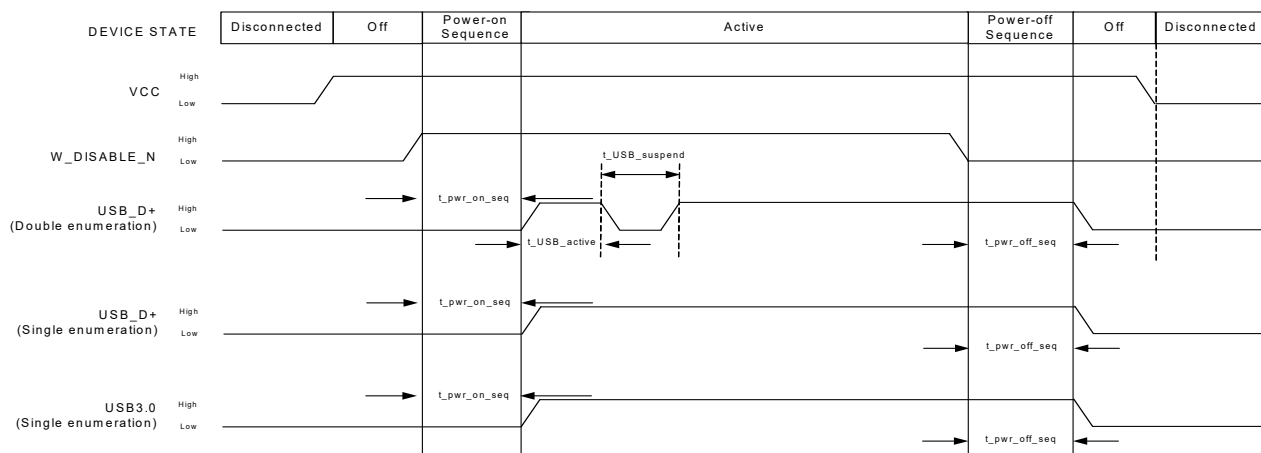

Figure 5-2: Signal Timing (W_DISABLE_N, and USB Enumeration)
Figure 5-2 describes the timing sequence for powering the module on and off.
- Double enumeration—As shown in Figure 5-2 on page 47: